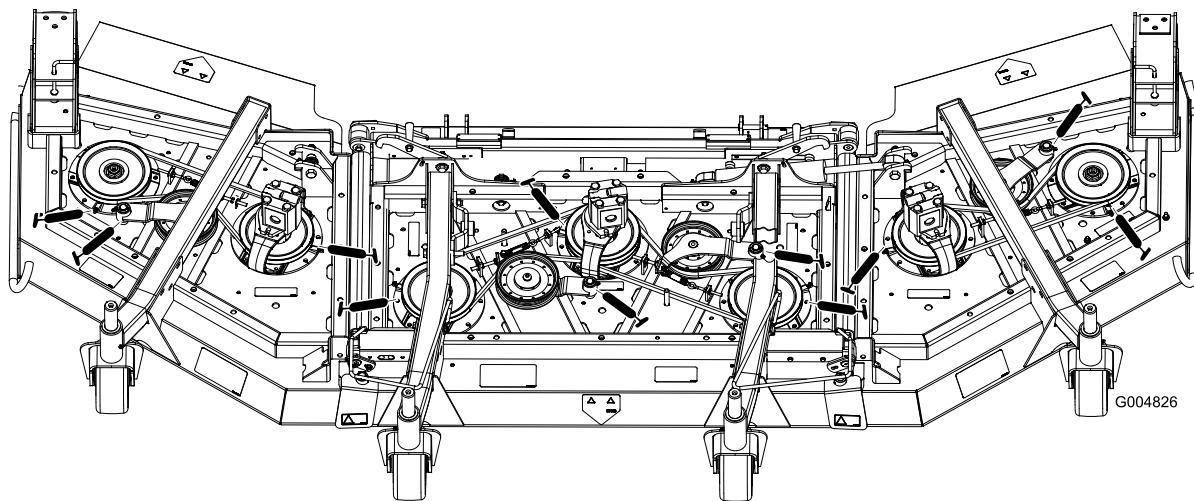

Figure 42
- 3 spindle-shaft bearings—located under the pulley (Figure 42)
- 2 idler-arm-pivot bushings (Figure 42)